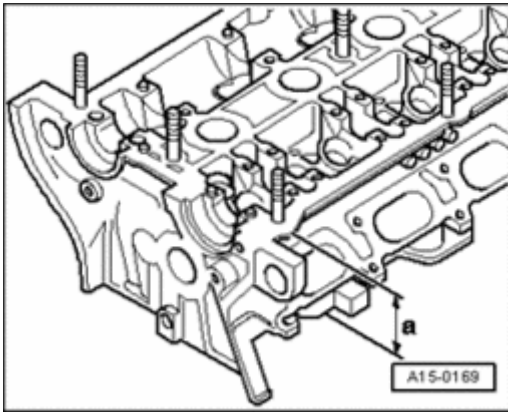

Fig. 204: Cylinder Head Refacing Dimension
- Refacing dimension. See **Fig. 204**